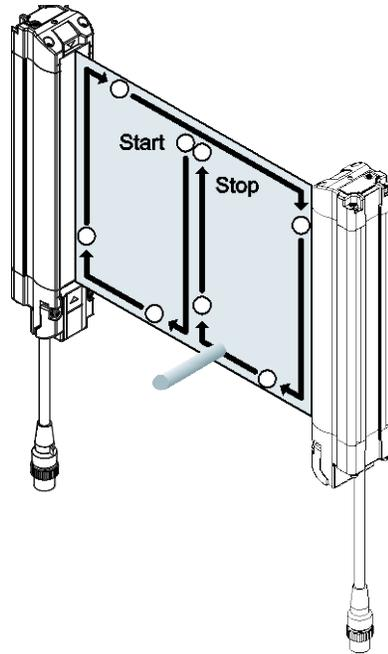

Figure 2-34. Test Object Pattern
6. Interrupt the Shadow 9 sensing field with the shank of a 1/8-in. (3.2 mm) screwdriver to check the unit's alignment. Move the test object inside the perimeter (along the top, sides, and bottom) of the sensing field and up and down through the center of the sensing field, as shown in *Figure 2-34*. The ON/OFF LED on the first receiver should be illuminated green.